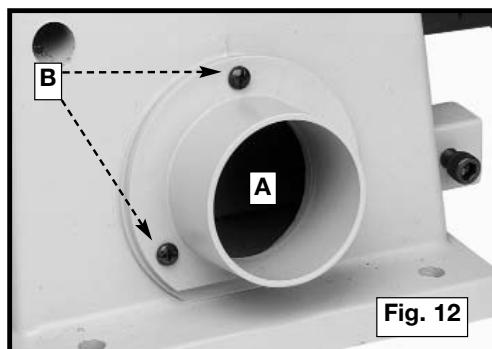

Fig. 12
Align the three holes in the dust chute (A) Fig. 12 with the three holes in the left side of the sanding base. Insert the pan head screw (B) Fig. 12 through the hole in the dust spout and thread it into the tapped hole in the sander base. Repeat this process for the two remaining holes.